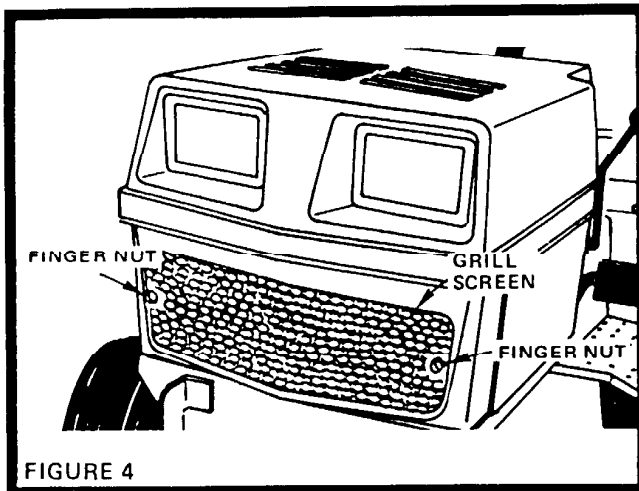

FIGURE 4
14. Remove Grill Screen by removing Finger Nuts with a screwdriver on R.H. and L.H. sides (Fig. 4).
21. Replace Grill Screen (Fig. 4)
1. Remove Grill Screen by removing two (2) Finger Nuts (Fig. 4).
8. Replace Grill Screen (Fig. 4).